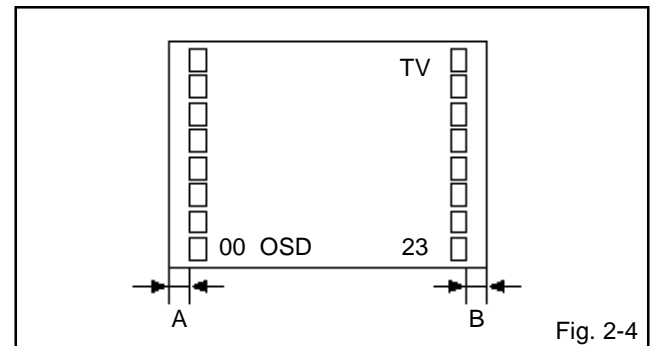

Fig. 2-4
2. Press the VOL. UP/DOWN button on the remote control until the difference of A and B becomes minimum. (Refer to Fig. 2-4)